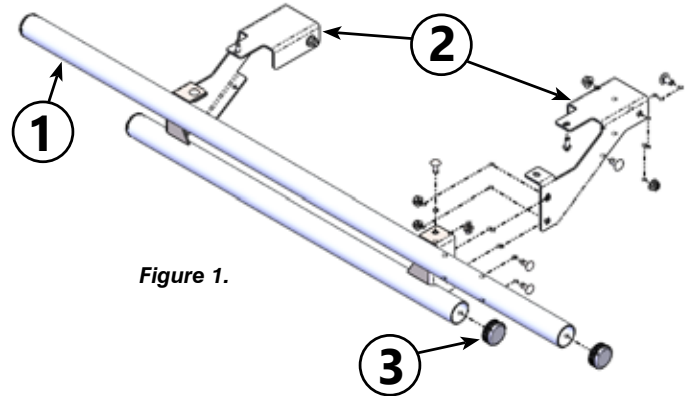
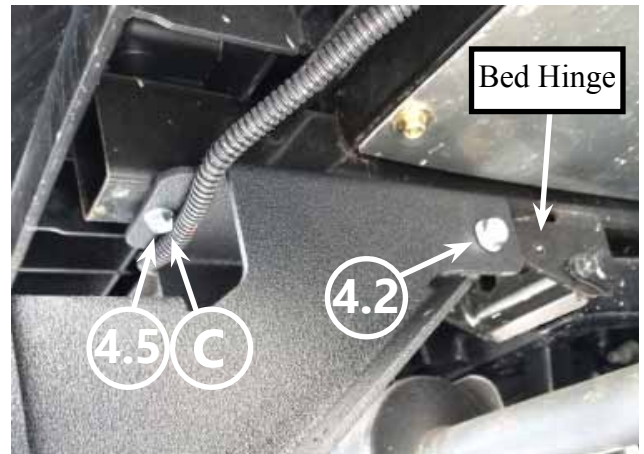

Figure 1.
Figure 3 - Passenger Side
1. Assemble tube caps (3) to bumper tubes (1) as shown in Figure 1.
4. Maneuver the bumper brackets (2) into position by sliding them over top of the wiring harness and onto the bed hinges as shown in Figure 3.
5. Hold the bumper bracket in place and run 4x 3/8"-16 x .75" (4.1) carriage bolts through the square slots in the frame and holes in the bumper brackets (2). Bolt heads will be on the inside of the bracket.
6. Loosely fasten 3/8" Hex Flange Nylock Nut (4.2) as shown in Figures 1 & 3. Do not tighten.
7. Run 2x Self-Tapping screws (4.5) up through location (C) and into the box frame as shown in Figure 3. Turn until hand-tight only! Do not over-tighten or you may strip the hole.